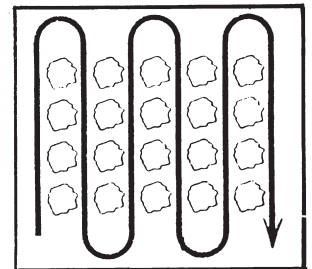

FIG. 8
- Your tiller may be used for cultivating which requires a minimum of two (2) inches of soil penetration.
- Set depth stake so the Tiller will penetrate soil to a depth of 2 to 3 inches. The Tiller Engine should be run at full throttle except when cultivating small plants. A slower engine is necessary to prevent burying the plants. (See fig. 8).